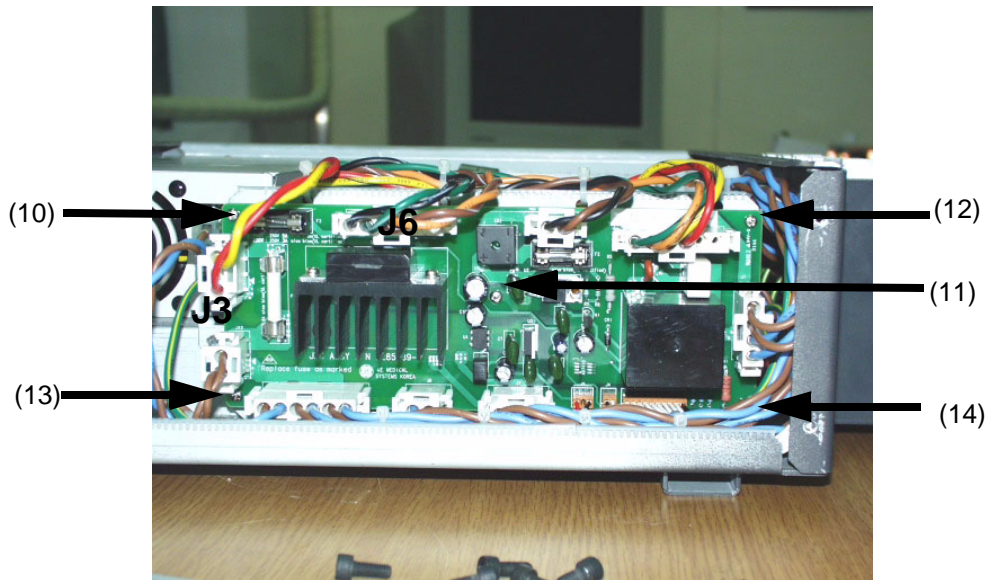

Figure 8-177 Disconnecting all connectors
3.) Disconnect all the connectors connected in the JPC Assy. Refer to Figure 8-177.